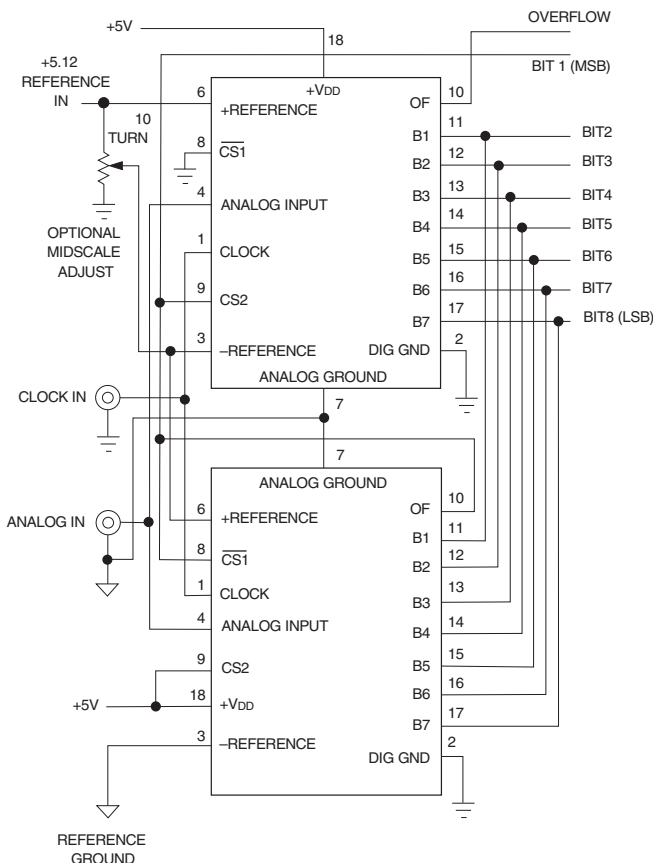

Figure 4. Using Two ADC-207's for 8-Bit Operation
3. Clock Pulse Width – To improve performance at Nyquist bandwidths, the clock duty cycle can be adjusted so that the low portion of the clock pulse is 12ns wide. The smaller aperture allows the ADC-207 to closely resemble an ideal sampler. See Figure 4.
Two ADC-207's (A and B) are cascadable for applications requiring 8-bit resolution. The device A provides a typical 7-bit output. The OVERFLOW signal of device A turns off device A and turns on the device B. The OVERFLOW signal of device A is also used as MSB for 8-bit operation. The device B provides the other seven bits from the input signal. Figure 4 shows the circuit connections for the application.